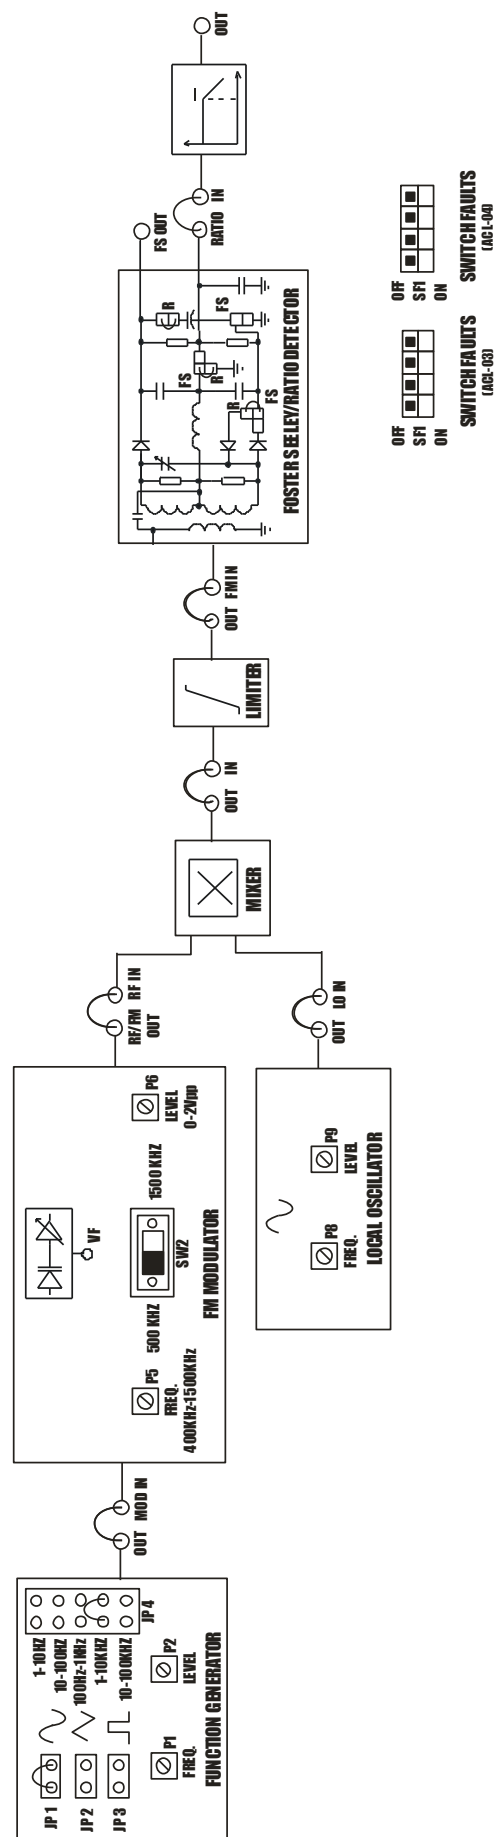

FIG.3.12 BLOCK DIAGRAM FOR FM DEMODULATOR (RATIO)
- Refer to the FIG. 3.12 & Carry out the following connections.